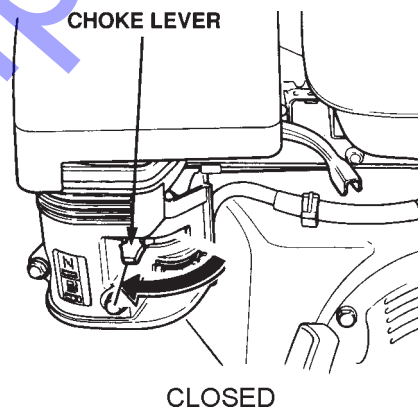

Figure 10. Engine Choke Lever (Closed)
4. Place the *choke lever* (Figure 10) in the "CLOSED" position if starting a *warm engine* or the *temperature is warm*.